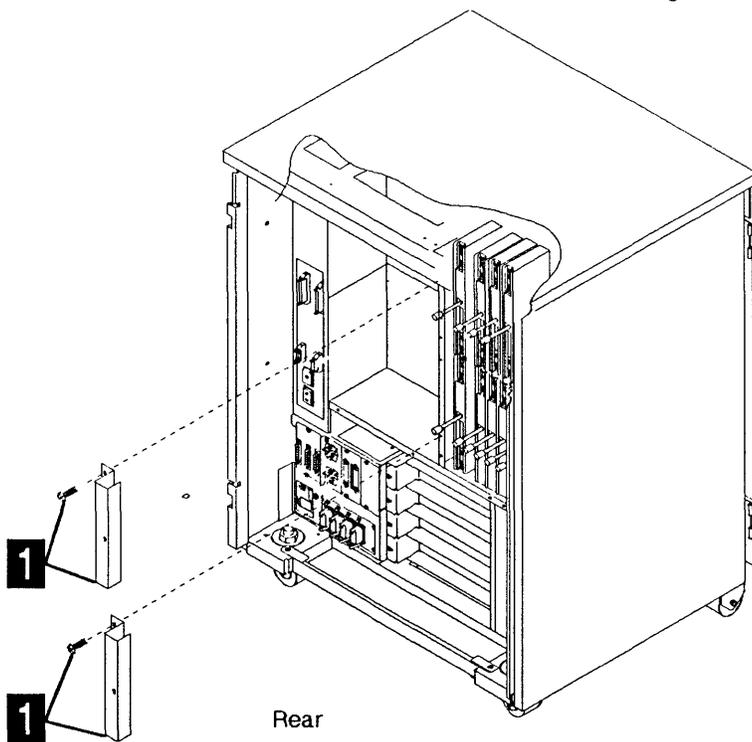

Figure 4-51. SMUX Cover.
3. Take away one of the SMUX covers. Refer to Figure 4-51 (2 screws must be removed **1**).
5. Re-install the SMUX cover with the 2 screws. Refer to Figure 4-51 on page 4-38.